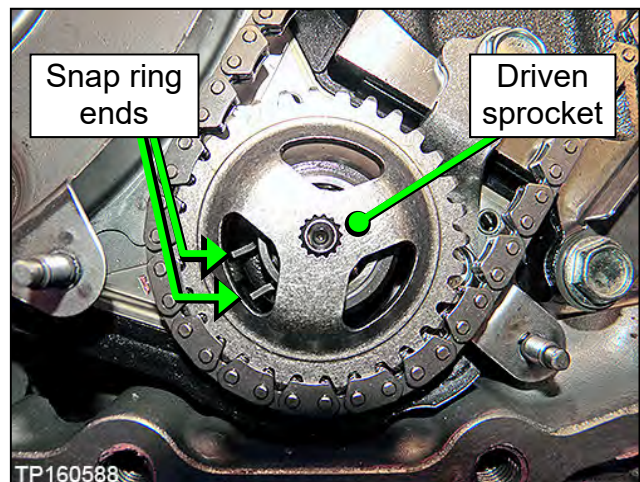

Figure 166
- a. Expand the snap ring with a suitable tool, and then push down on the driven sprocket until it bottoms out (Figure 166).